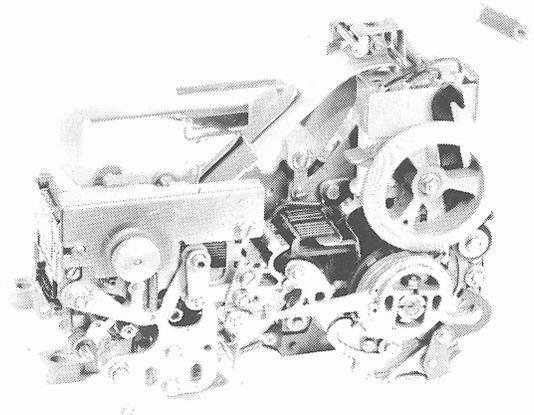

Figure 1 - 37 Nontyping Reperforator
1.01 This section provides lubrication procedures for the 37 nontyping reperforator (Figure 1). It is reissued to include new lubrication requirements and to revise existing information for YRPE800 through YRPE807. Because this issue is a general revision, marginal arrows showing added or changed information have been omitted.